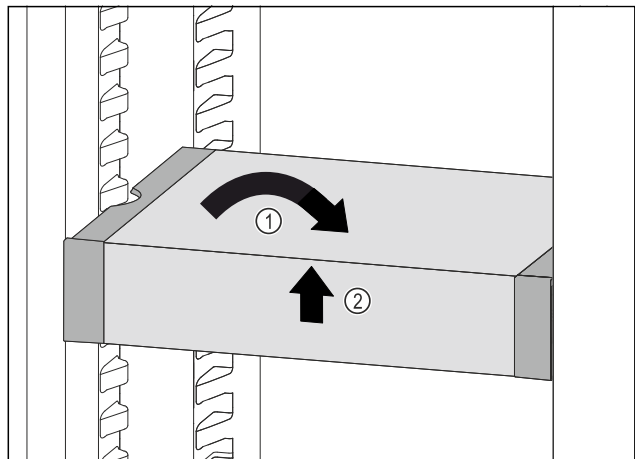

Fig. 86
- ▶ Set VarioSafe straight. Fig. 86 (1)
- ▶ Lift VarioSafe at the front. Fig. 86 (2)